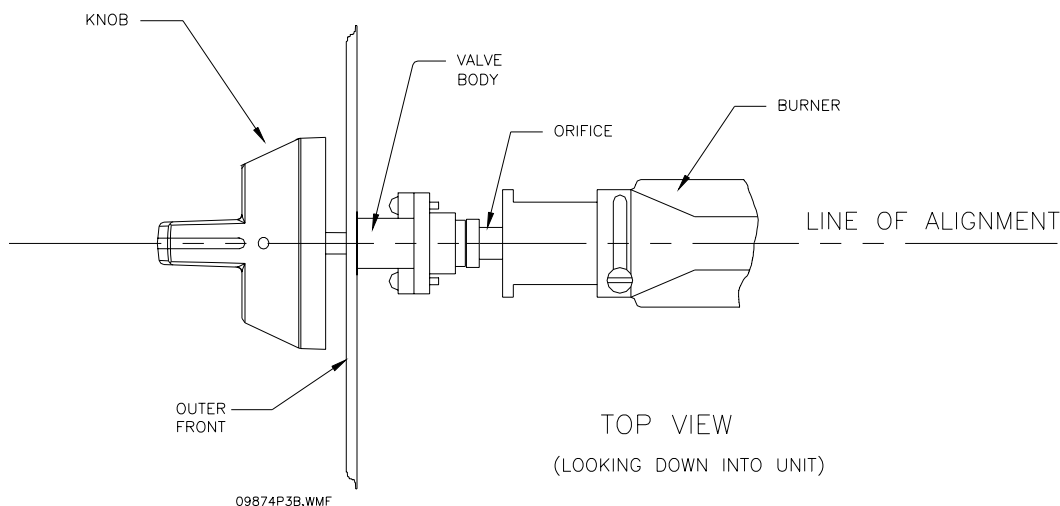

Figure 9
- Check periodically to insure that the burners are fitted properly on the orifices (see burner/orifice inspection figure 9, Page 10), or when there is a performance problem.
- Remove the service shelf by removing the two screws at the ends (29).
- The front of the burners, the valve bodies, and orifices are now exposed for inspection. Looking down into the unit, compare each assembly with the diagram below (Figure 9) for alignment.